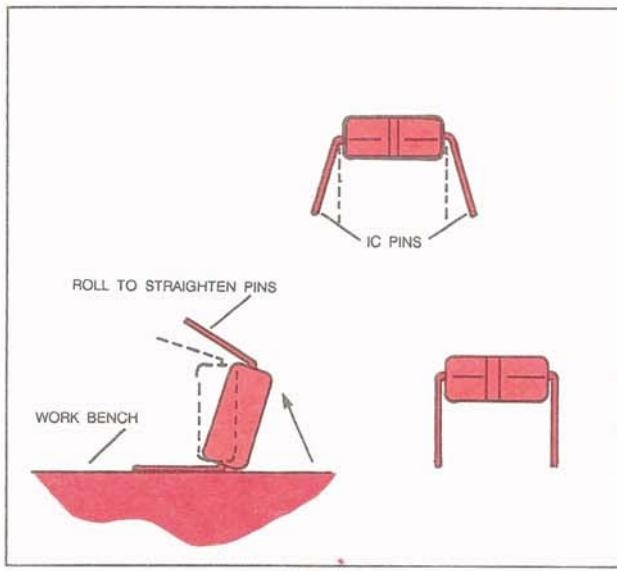

FIG. 18
c. The IC's pins are bent on an angle, preventing them from lining up with the socket. Straighten them by placing the IC on a flat surface, then slowly rolling the IC toward the pins, as shown in Fig. 18.